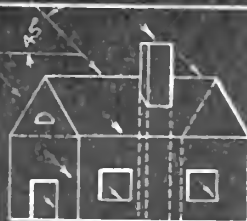

Fig. 1
2. The light is assumed to come in the direction of arrows - Fig. 1